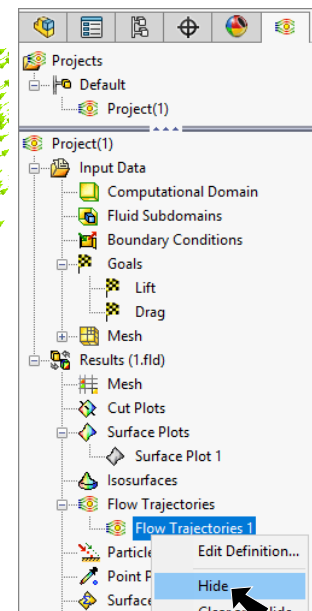

Fig. 26
Step 3. After viewing the flow trajectories, **right click Flow Trajectories 1** in Flow Simulation tree and click **Hide**, **Fig. 26**.